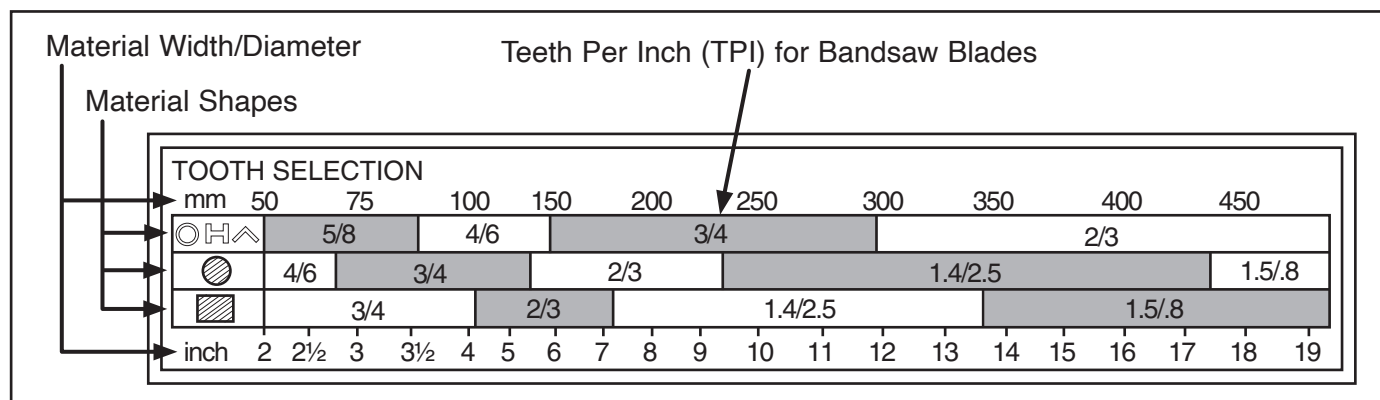

Figure 15. General guidelines for blade selection and speed chart.
2. Refer to "Material Width/Diameter" row of blade selection chart in **Figure 15**, and read across to find workpiece thickness you need to cut.